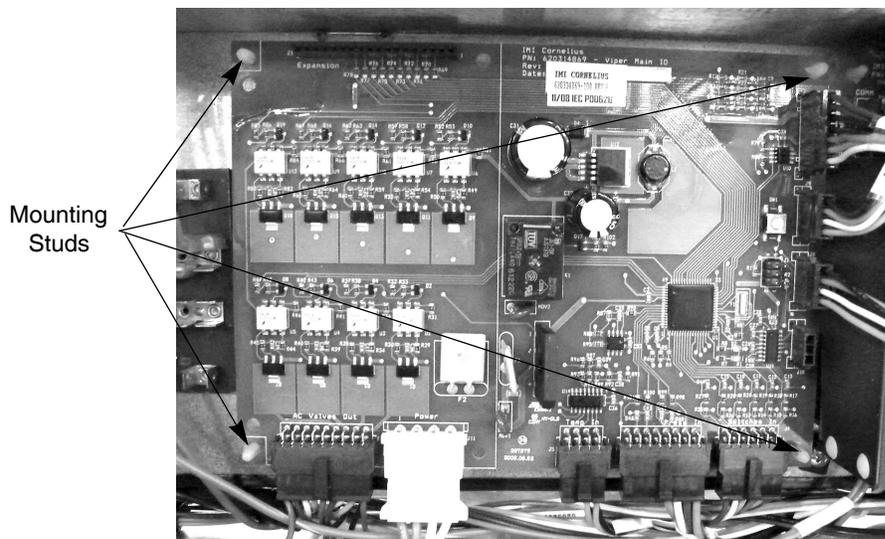

Figure 53. View of Control Board in E-Box
The control board is located in the E-Box. It is mounted to the panel on four (4) plastic mounting studs, shown in Figure 53. To replace the control board, perform the procedure in Table 60.